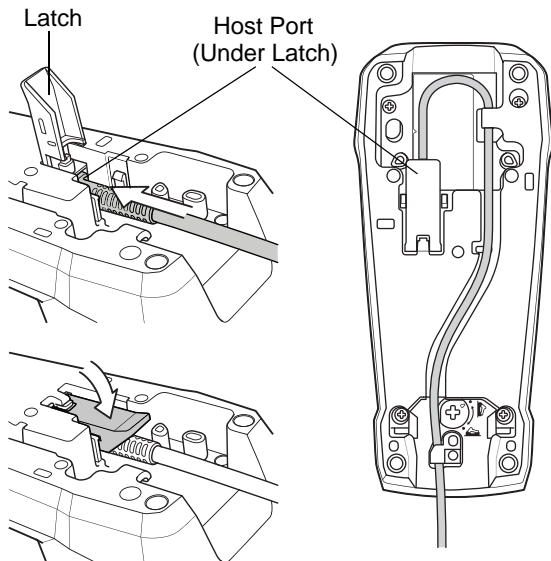

Figure 1-14 Connecting the Cables to the Cradle
3. Lift the latch and connect the interface cable into the cradle's host port and then close the latch. See Figure 1-14.